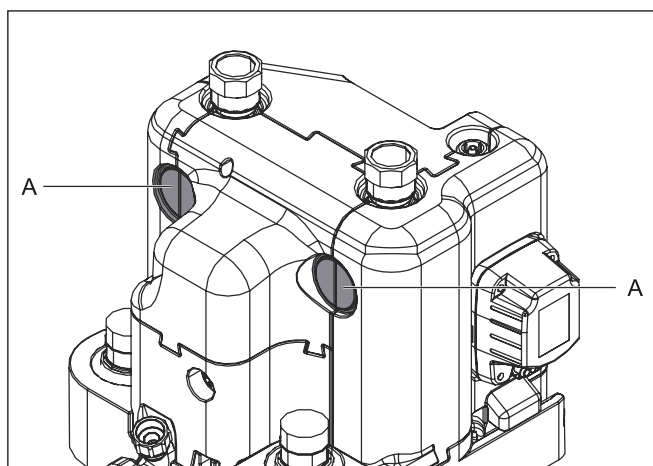

Fig. 3-21 Cut-out in thermal insulation
- 16 Cut out side openings in the thermal insulation (Fig. 3-21, item A) using a suitable tool.